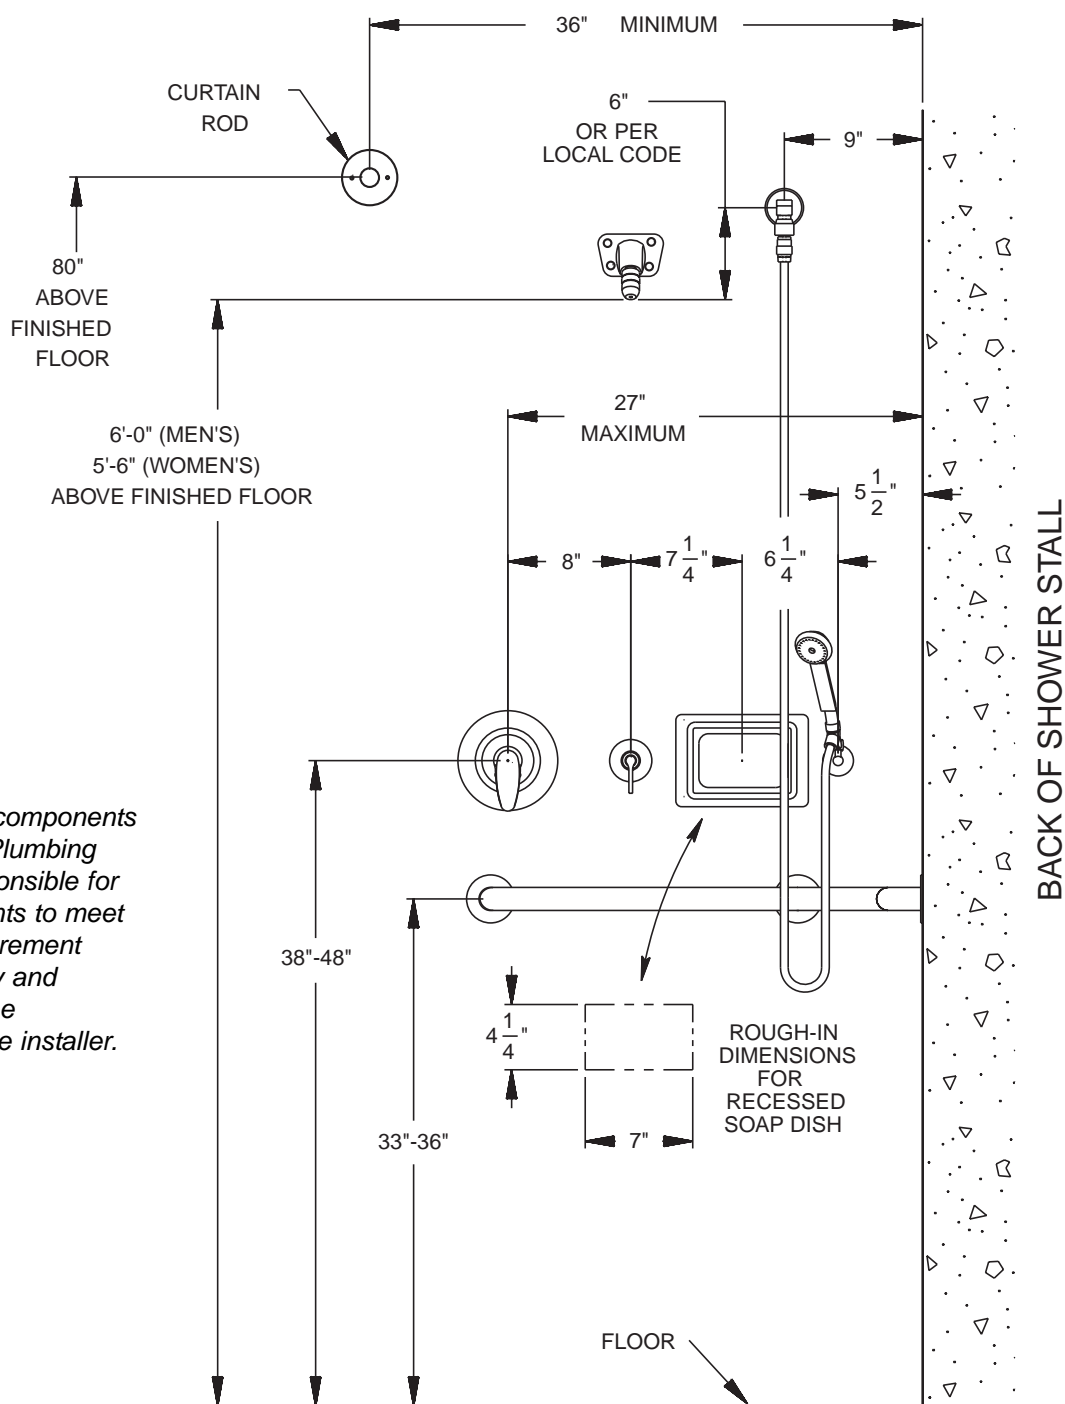
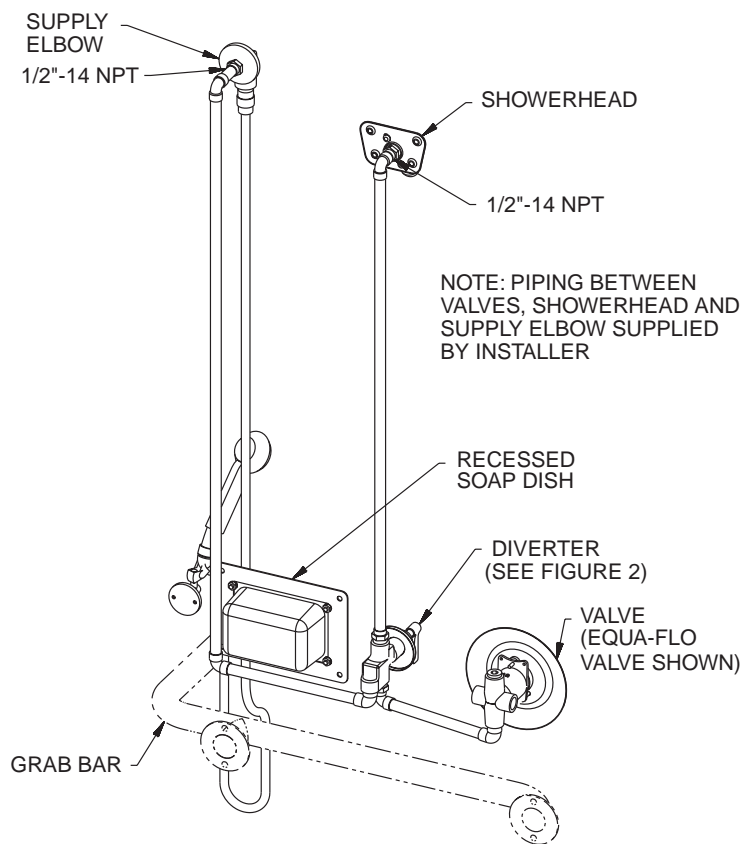

Figure 1
Figure 3
1. Rough-in valve in location recommended in Figure 1. Refer to the Instruction Sheet supplied with the valve for particular installation information.
3. At dimensions shown in Figure 1, rough-in piping from valve to diverter valve, showerhead, and in-line backflow preventer elbow (piping supplied by installer) (see Figure 3).
4. If recessed soap dish is provided, rough-in a 7" x 4-1/4" rectangle in the wall (see Figure 1)
1. Position bracket as shown in Figure 1.
1. Position grab bar as shown in Figure 1.
2. Mount one shower rod flange 80" from floor as close to opening of shower stall as possible with two #10-13 x 2" Phillips oval screws provided (see Figure 1).